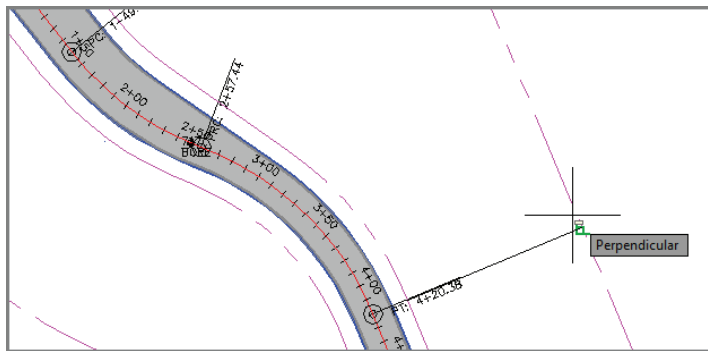

FIGURE 12.7 Snapping to a location that is perpendicular to the eastern lot line
7. Click the magenta back-lot line, as shown in Figure 12.7. Press Esc twice to end the command.